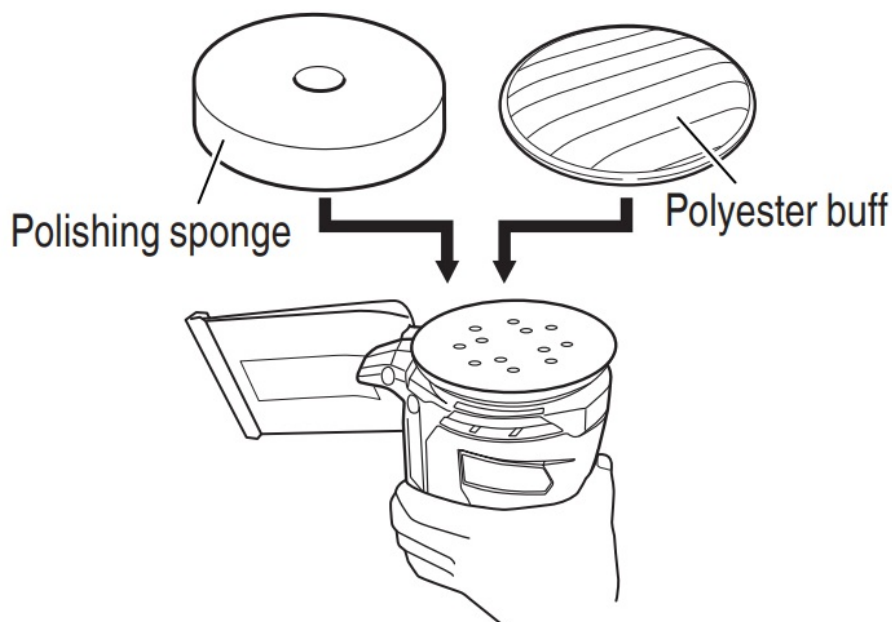

Fig. 14
1. Installing the polyester buff or the polishing sponge. Since the attachment is a hook-and-loop type as with the sanding paper, the polyester buff or the polishing sponge can be mounted by just pressing it onto the pad (Fig. 14).